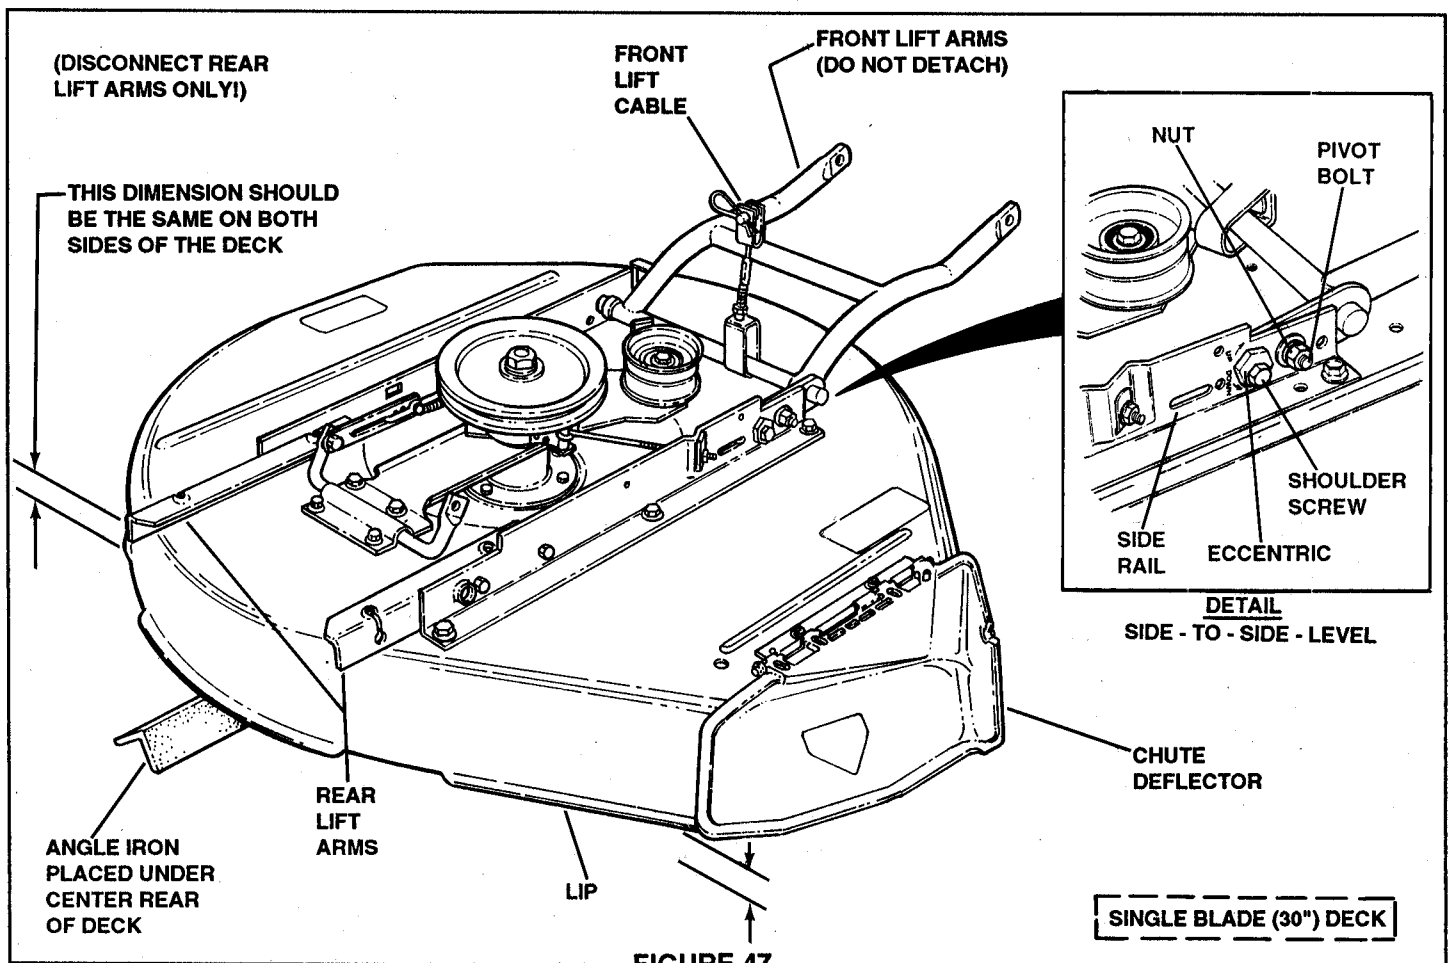

FIGURE 47
4. If required, adjust side-to-side level of mower deck by loosening the nut on the PIVOT BOLT and the SHOULDER SCREW inside the ECCENTRIC BOLT. See inset, Figure 47.